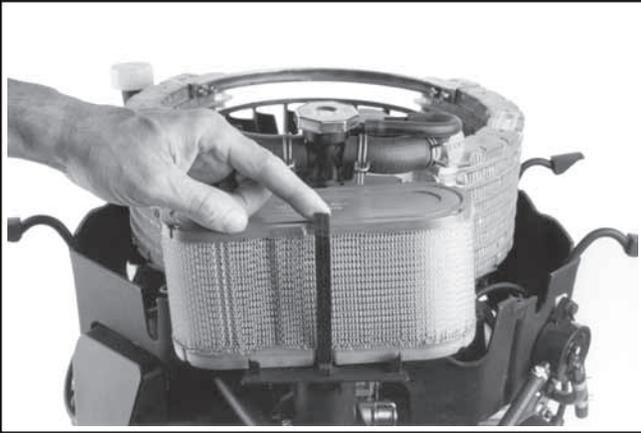

Figure 21. Unhooking Retaining Strap.
3. Unhook the element retaining strap and remove the paper element from the air cleaner base. See Figure 21.